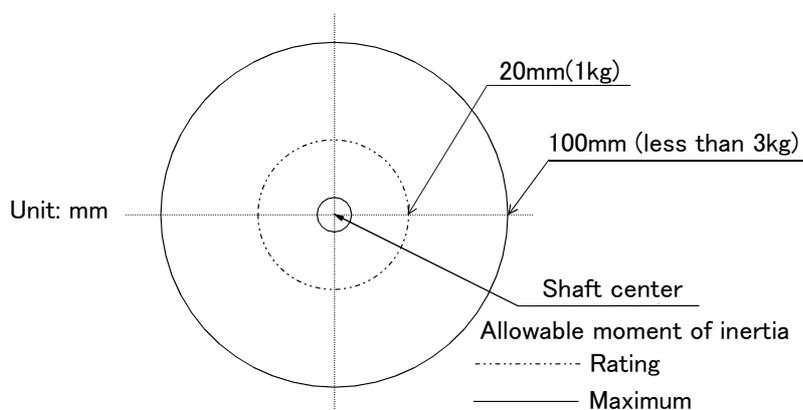

Fig.2-1 : Position of center of gravity for loads (for loads with comparatively small volume)
- (1) The tooling should have the value less or equal than the smaller of the allowable moment of inertia found in Page 8, "2.1.1 Basic specifications".
- (2) Fig. 2-1 shows the distribution dimensions for the center of gravity in the case where the volume of the load is relatively small. Use this figure as a reference when designing the tooling. Please use the robot in the allowable moment of inertia of maximum moment of inertia shown in Fig. 2-1.